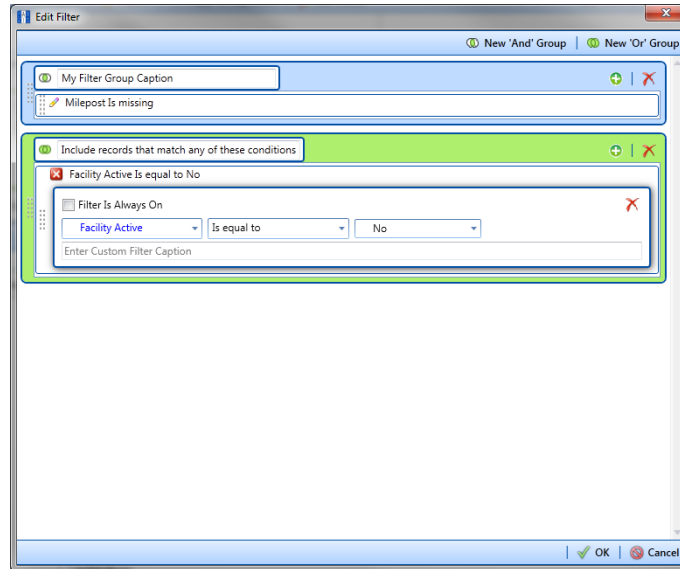

Figure 10-51. New 'Or' Filter Group
- a Click  **New 'Or' Group** to open a filter properties group box (Figure 10-51).